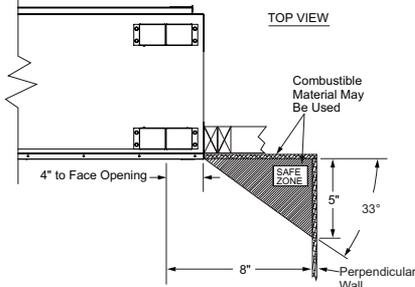

Figure 7 - Clearances for Combustible Mantels
- where curtains, furniture, clothing or other flammable objects are less than 36" from the front and 42" top of fireplace. For side clearances see Figure 7, page 10
If you are using a separate combustible mantel piece, refer to Figure 7, page 10 for proper installation height. You can install noncombustible mantels at any height above the fireplace.